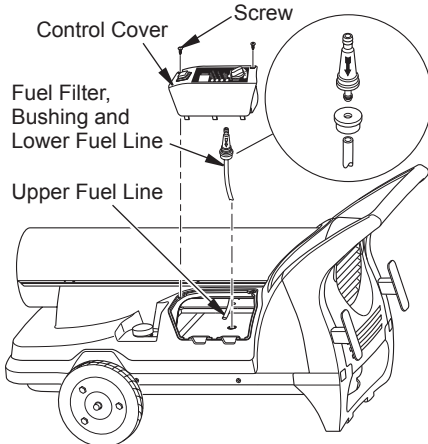

Figure 13 - Fuel Filter Removal
- Pull upper fuel line off fuel filter neck (see Figure 13).
- Carefully pry bushing, fuel filter and lower fuel line out of fuel tank (see Figure 13).
- Remove 2 control cover screws with a phillips screwdriver. Remove control cover (see Figure 13).
- Replace control cover (see Figure 13, page 11).
- Remove control cover screws using phillips screwdriver (see Figure 13, page 11).